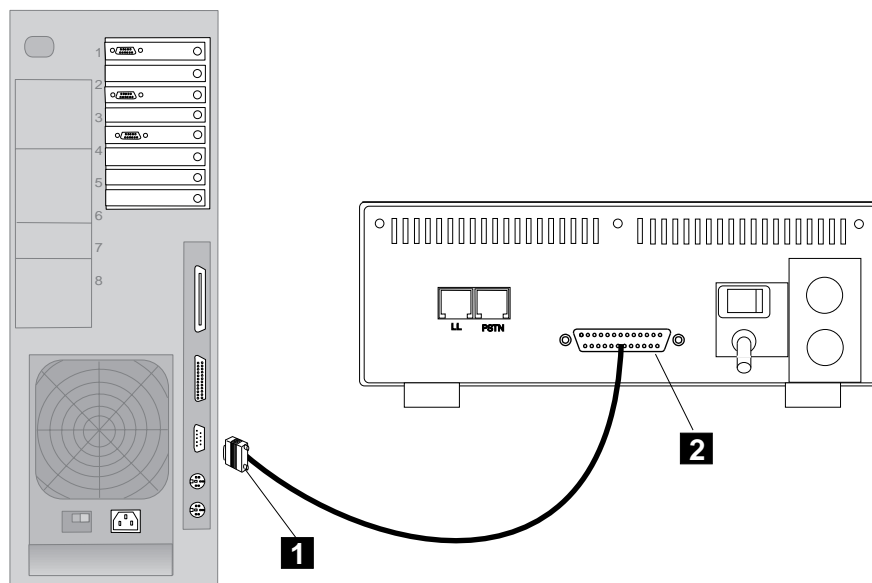

Figure 1-84. Connecting the Service Processor (9585) from COM1 to the 7857
- **9585**, refer to Figure 1-84 on page 1-74